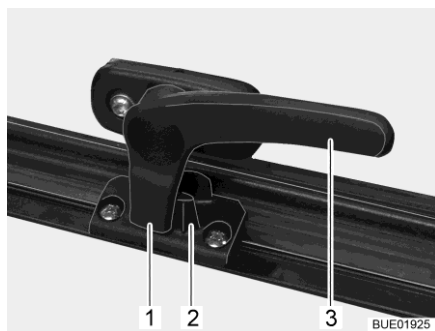

Fig. 16 Catch lever in "closed" position
- Turn the catch lever (Fig. 16,3) a quarter turn towards the centre of the window.
- Turn the catch lever (Fig. 16,3) a quarter turn towards the window frame. The locking catch (Fig. 16,1) is located on the inside of the window catch (Fig. 16,2).
- "Firmly closed" (Fig. 16).